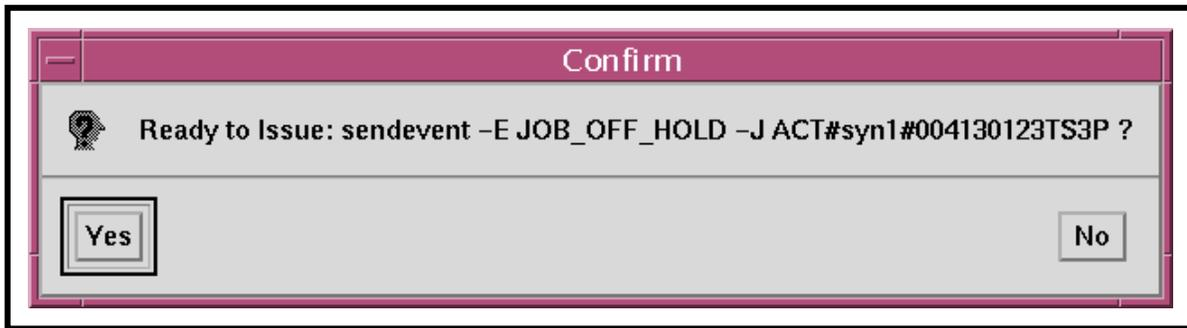

Figure 75. Confirmation Dialogue Box
- A confirmation dialogue box similar to Figure 75 is displayed requesting permission to proceed with sending the event.